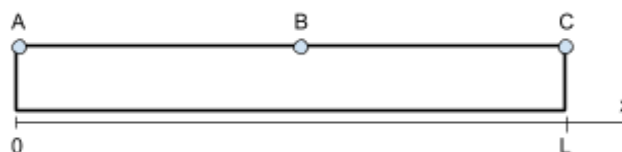

Figure 2
- A.6** For the purpose of this task only, we assume a weak thermal interaction between the tube and the gas. As a result, the standing sound wave remains almost unchanged, but the gas can exchange a small amount of heat with the tube. The heating due to viscosity can be neglected. For each of the points in Figure 2 (A, C at the edges of the tube, B at the center) state whether the temperature of the tube at that point will increase, decrease or remain the same over a long time. 1.2pt